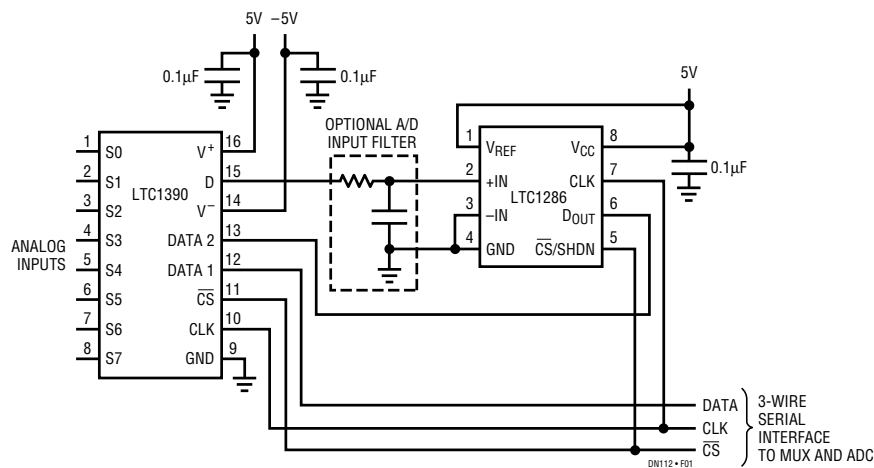

Figure 1. The LTC1390 Expands the 12-Bit Micropower LTC1286 ADC Input Capacity to Eight Channels
Figure 1 shows the LTC1390 connected to the LTC1286 12-bit micropower A/D converter. The Clock (CLK) and Chip Select (CS) signals are connected in parallel to the LTC1390 and LTC1286. Both the LTC1390 and the LTC1286 are designed for serial data transfer. The LTC1390 also includes provisions for daisy-chain operation. This